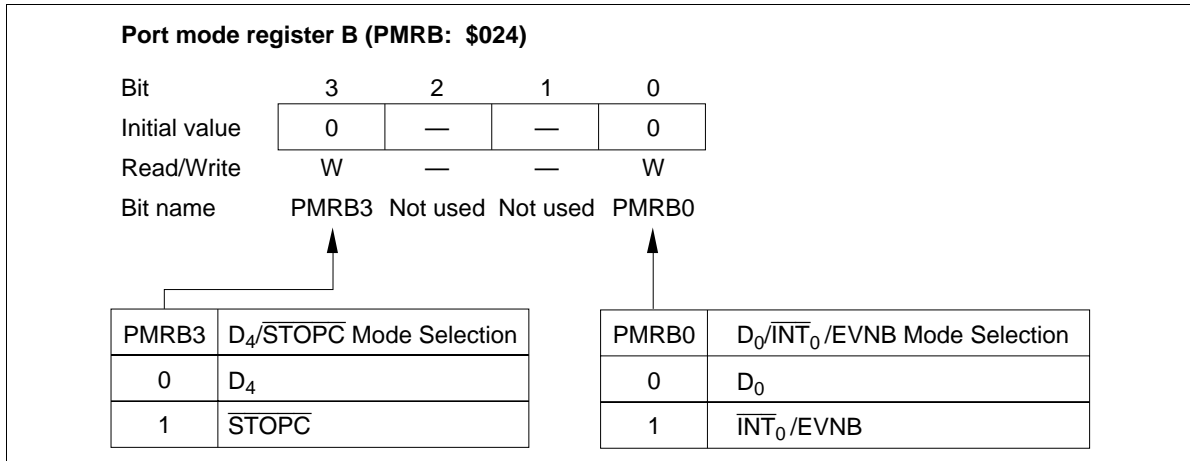

Figure 20 Port Mode Register B (PMRB)
Pins D₀ and D₄ are multiplexed with peripheral function pins $\overline{INT}_0/\overline{EVNB}$, and \overline{STOPC} . Setting of the peripheral functions for these pins is executed by bits 3 and 0 (PMRB3, PMRB0) of port mode register B (PMRB: \$024) (figure 20).
- Port mode register B (PMRB: \$024): Write-only register that selects the $D_0/\overline{INT}_0/\overline{EVNB}$ pin as shown in figure 20. It is reset to \$0 by an MCU reset.